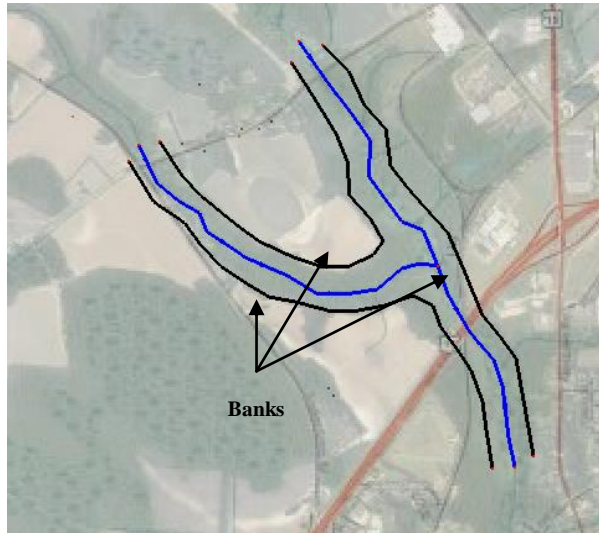

Figure 3 Placement of bank arcs
6. Create new arcs where the bank locations are estimated to be, based upon contours/colors (roughly follow the green area around the centerline arcs) on the background image. Use Figure 3 as a guide.
6. Repeat steps 1 to 4 for each reach in the map as shown in Figure 3.